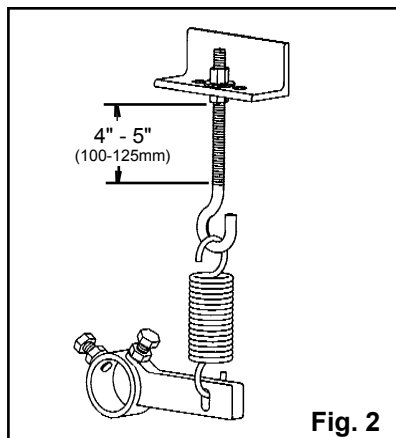

Fig. 2
- b. Assemble the tension spring and the J-bolt mount to an adjusting arm (Fig. 2). **IMPORTANT:** Allow for at least 4" to 5" (100-125mm) upward movement on the J-bolt for future blade tip adjustments.